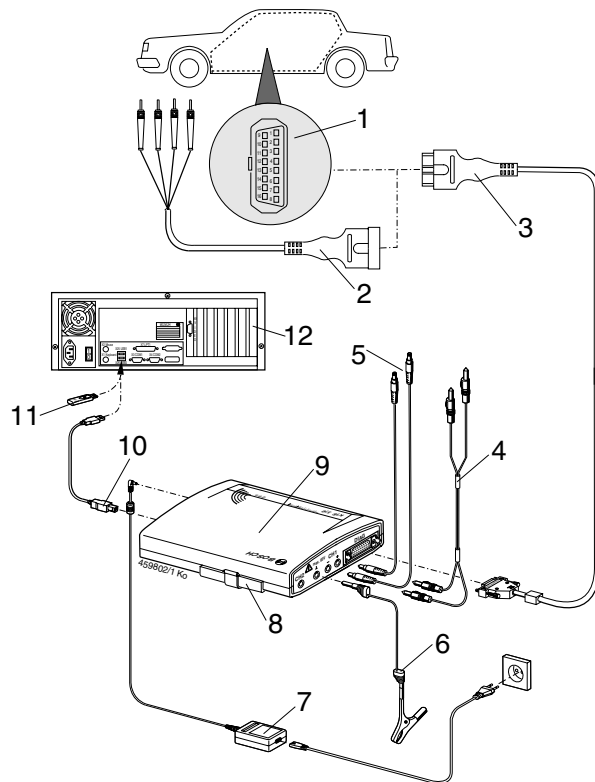

Fig. 3: Connection diagram in an example for the KTS 570
The adapter insert (Fig. 3, Item 8) contains all of the existing capabilities for establishing communication with the vehicle diagnosis interfaces that are known. In order to flexibly adapt to future expansions in diagnosis protocols, the adapter insert can be changed quickly without any tools.
- the OBD diagnostics cable (Fig. 3, item 3) or
- the OBD diagnostics cable and the UNI connecting cable (Fig. 3, item 2) or
The connection to the diagnosis interface in the vehicle takes place via the OBD-diagnosis cable (Fig. 3, Pos. 3) or additionally via the UNI-connection cable (Fig. 3, Pos. 2) and vehicle-specific adapter cables (special accessories).